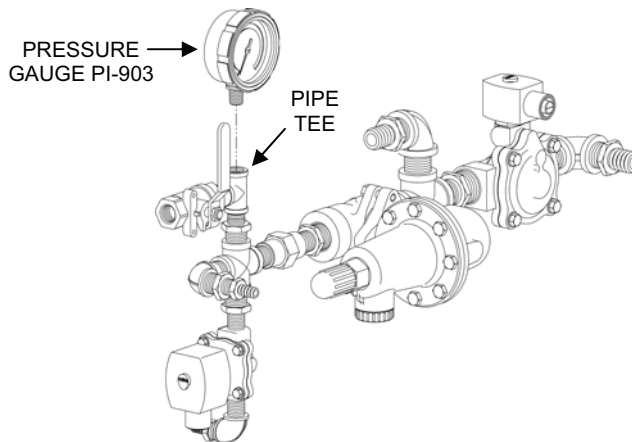

Figure 5. Pressure Gauge PI-903.
2. Unscrew Pressure Gauge PI-903 from its pipe tee (see Figure 5):
4. Thread the new pressure gauge into the pipe tee and tighten in the position shown in Figure 5.